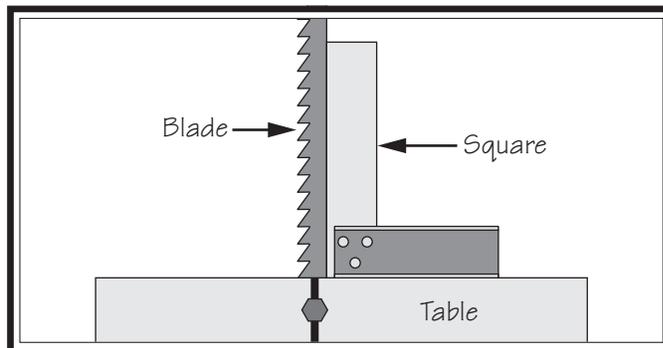

Figure 46. Squaring back of blade and table.
2. Place a square on table and against back of blade, as illustrated in **Figure 46**. Table should be perpendicular to back of blade.